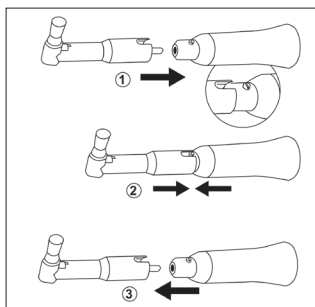

Fig.1
3. To remove, pull prophy angle away from handpiece axially. (Fig.1)